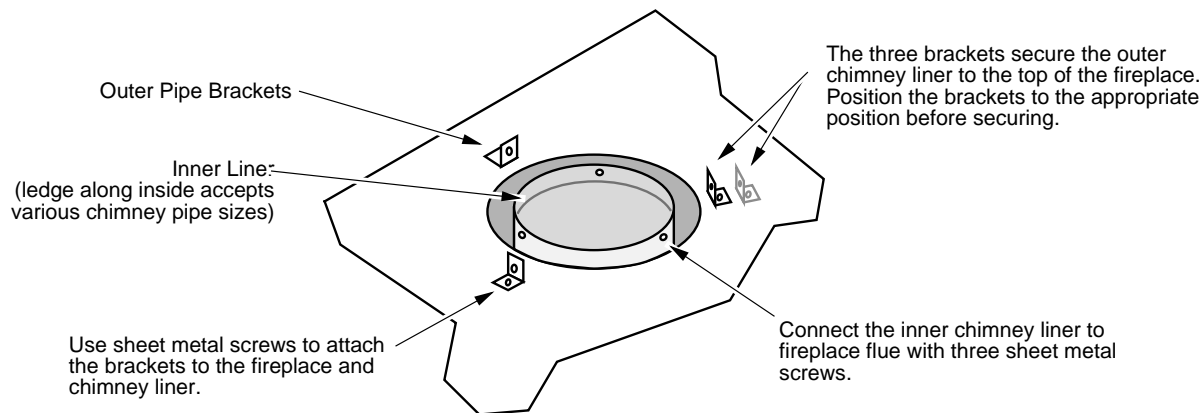

Figure 20
- Secure the inner and outer chimney liner to the fireplace (see Figure 20).